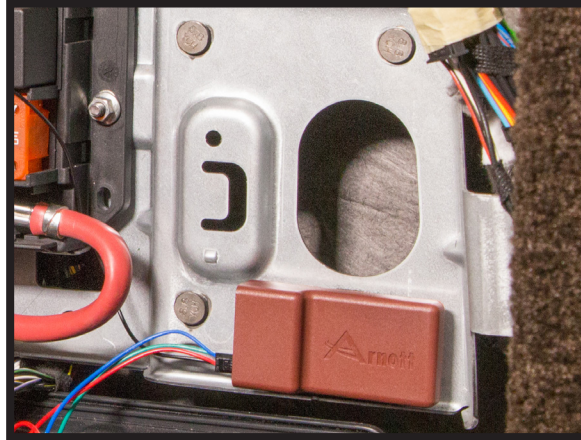

FIGURE 10
7. SECURE IN SUITABLE LOCATION. (FIGURE 10)